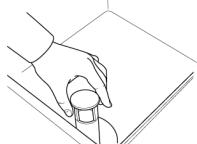

Fig.41
- Open the door and remove the water flow device and close the door. (Fig.41)